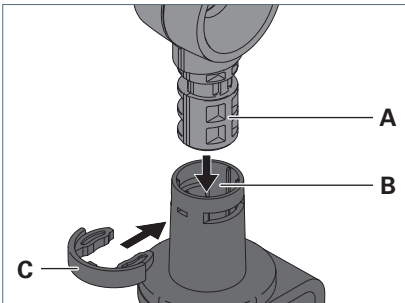

Fig. 4: Mounting a luminaire on a table clamp.
- Insert the stud **A** on the luminaire column into the opening **B** of the table clamp, see Fig. 4.